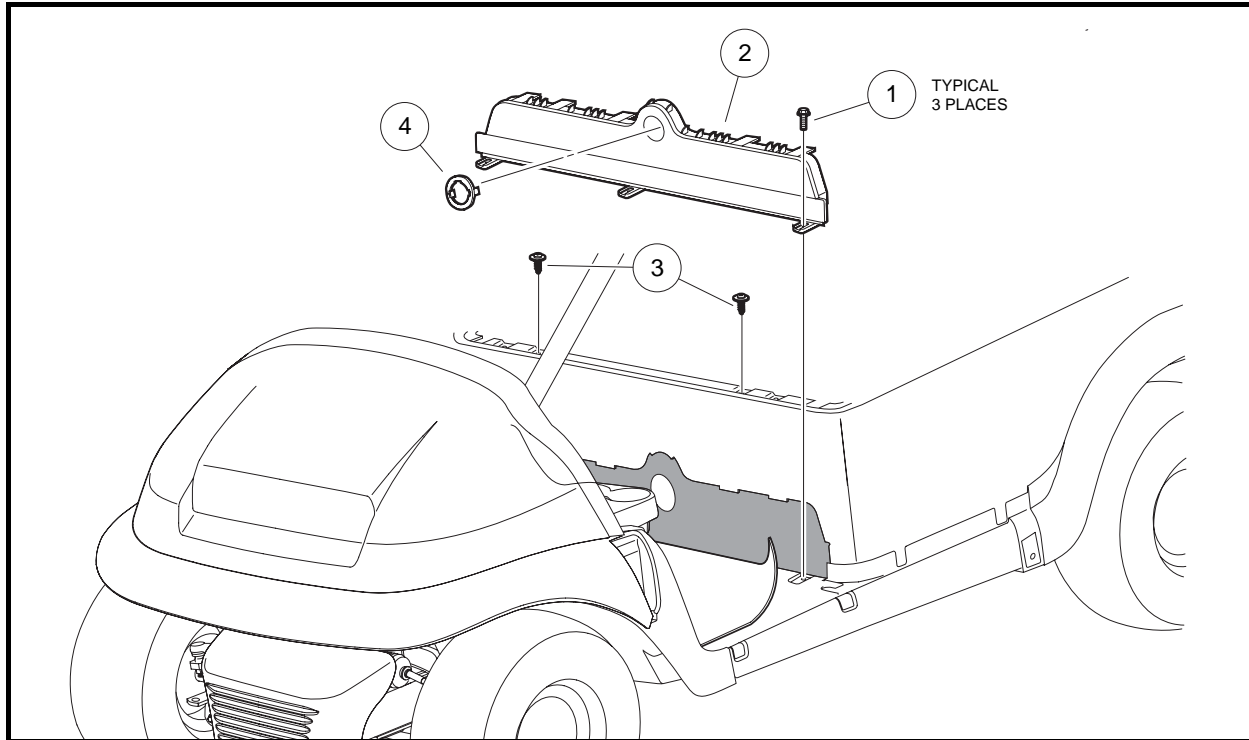

Figure 4-5 Kick Plate and Charger Receptacle Bezel
1. If charger bezel (4) requires removal, use charger bezel tool (CCI P/N 102562401) to remove bezel from the kick plate (**Figure 4-5, Page 4-8**).
3. Remove three screws (1) that hold the kick plate (2) to the vehicle.
4. Remove the two front screws (3) that hold the beauty panel to the vehicle. Raise the forward portion of the rear beauty panel to disengage it from the tabs on the upper portion of the kick plate.
1. Position the kick plate (2) on the vehicle and secure with three screws (1) (**Figure 4-5, Page 4-8**). Ensure front lower edge of rear beauty panel mates with the kick plate. Tighten screws to 3.3 ft-lb (4.5 N·m).
2. Install two front screws (3) to secure the rear beauty panel. Tighten screws to 3.7 ft-lb (5 N·m).
4. Snap charger bezel (4) in place on the kick plate.